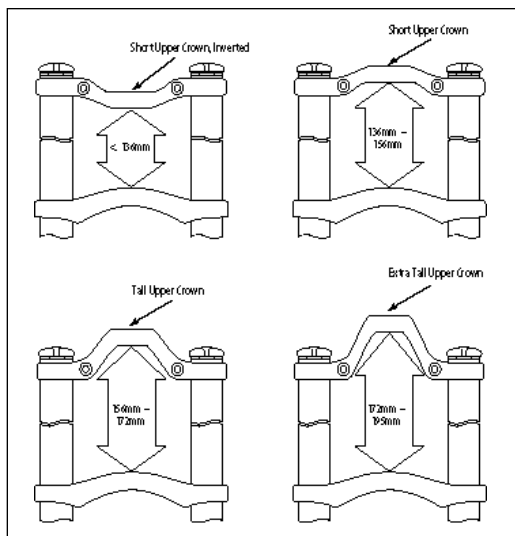

Fig.2
- Before you install a Judy XL/XLC on the bicycle, verify that the fork has been supplied with the correct upper crown. Refer to Fig.2 for upper crowns available for Judy XL/XLC and to maximize fork stiffness by proper selection and orientation of the upper crown.